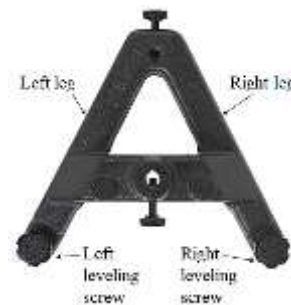

Figure 5: Rod Base “A” Shape
- Position the large rod base in front of you so that, looking down from above, it resembles the letter “A”, with the two leveling screws close to you. See Figure 5.